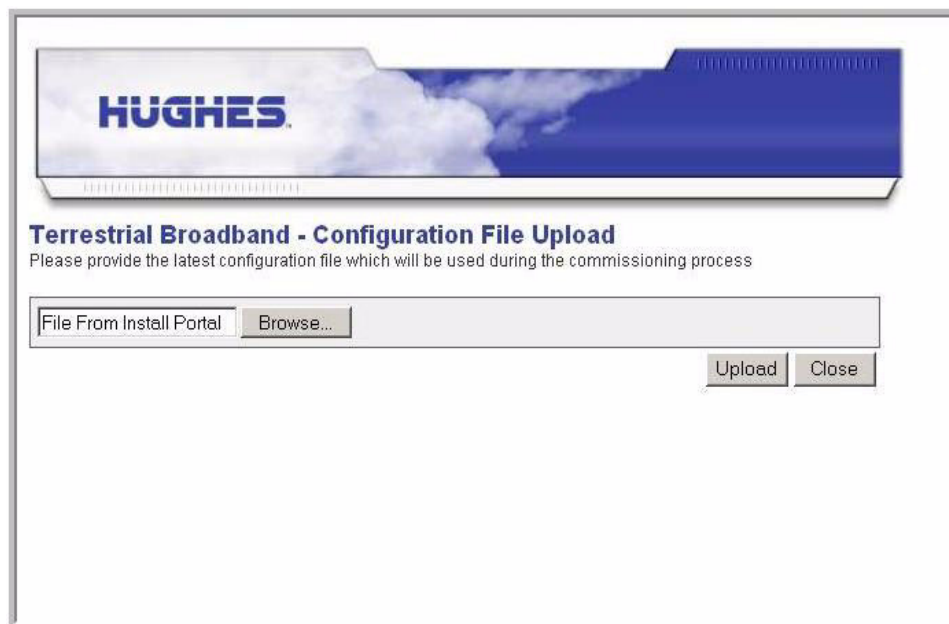

Figure 12: Configuration File Upload screen
1. Click the Config File Upload link. The Configuration File Upload screen displays as shown in Figure 12.